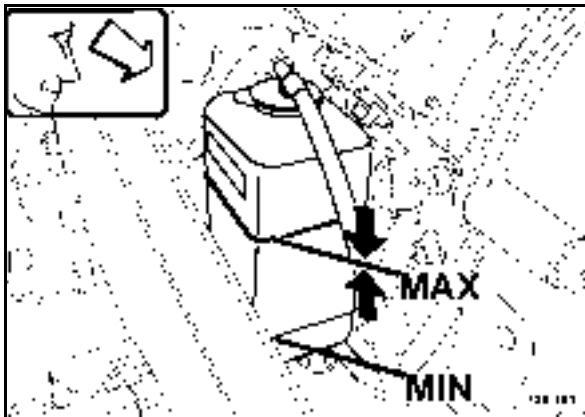

Fig. 96
- Check the coolant level (Fig. 96).